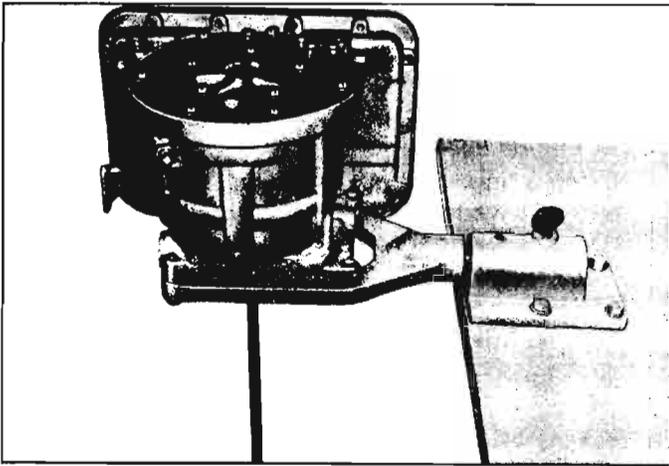

Fig. 6E-17—Transmission in Holding Fixture J-7896
4. Using slide hammers J-6585 and front pump adapters J-8365, free the front pump from the case as shown (fig. 6E-19). Adapters can be installed in
5. Remove the front pump cover (fig. 6E-20), then remove the pump shaft (fig. 6E-21). Use care in pump removal not to damage bushings in front pump body and turbine shaft with the pump shaft splines.